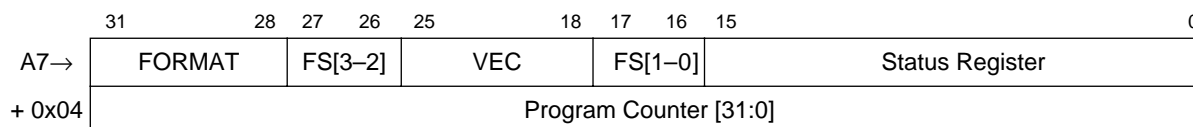

Figure 11-1. Exception Stack Frame
1. The processor makes an internal copy of the status register (SR) and then enters supervisor mode by setting SR[S] and disabling trace mode by clearing SR[T]. The occurrence of an interrupt exception also clears SR[M] and sets the interrupt priority mask, SR[I] to the level of the current interrupt request.
V2 and V3 use a simplified fixed-length stack frame, shown in Figure 11-1, for all exceptions. V4 uses the same fixed-length stack frame with additional fault status (FS) encodings to support the MMU. In some exception types, the program counter (PC) in the exception stack frame contains the address of the faulting instruction (fault); in others, the PC contains the next instruction to be executed (next). If the exception is caused by an FPU instruction, the PC contains the address of either the next floating-point instruction (nextFP) if the exception is pre-instruction, or the faulting instruction (fault) if the exception is post-instruction.
The first longword of the exception stack frame, Figure 11-1, holds the 16-bit format/vector word (F/V) and 16-bit status register. The second holds the 32-bit program counter address.